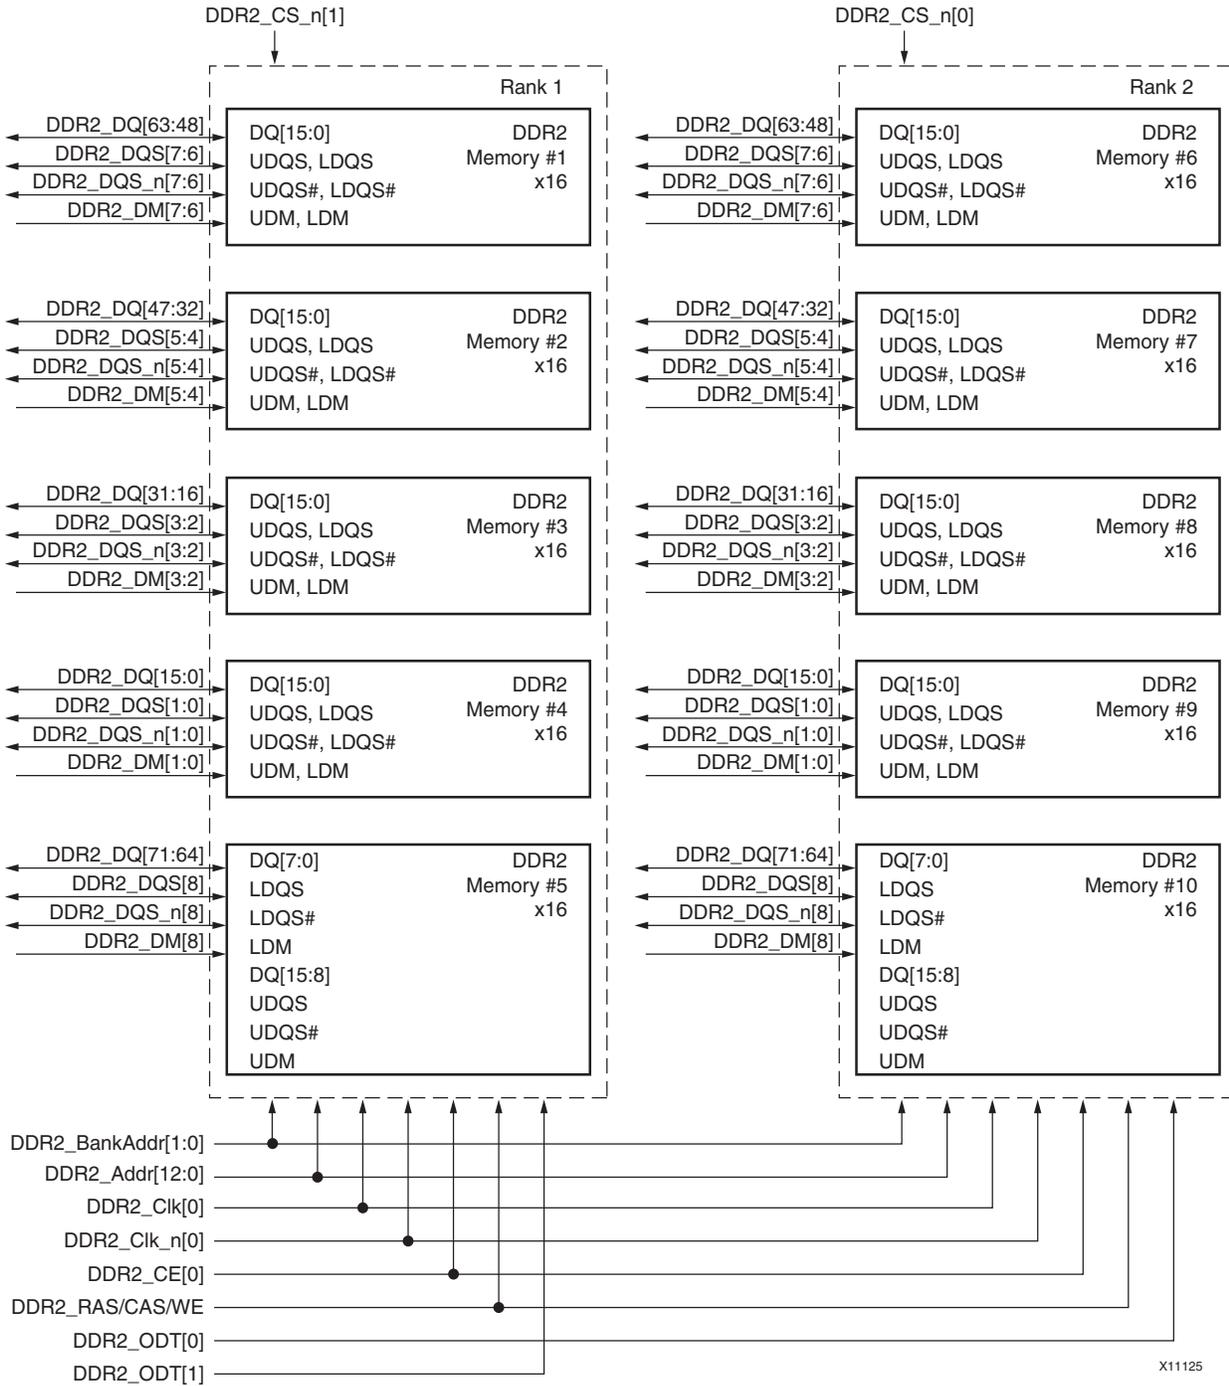

Figure 9: Example DDR2 Memory Connections
The example in Figure 9, page 96 has the following specified parameters:
- Within a particular rank, the signals DDR2\_CS\_n and DDR2\_ODT are connected to each memory in the rank. Some memory manufactures have specific recommendations for how these signals should be connected. For example, when using a dual rank DIMM, the recommendation might be to assert DDR2\_ODT on the same rank that DDR2\_CS\_n is asserted (as shown in Figure 9, page 96). Other recommendations might be to assert DDR2\_ODT on to opposite rank that the DDR2\_CS\_n is asserted, which can be achieved by swapping DDR2\_ODT[0] and DDR2\_ODT[1].